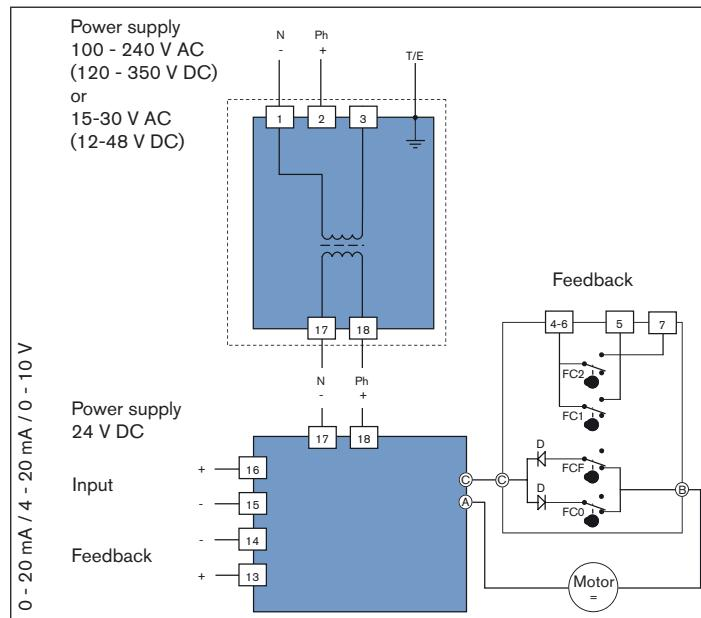

Fig. 21: Circuit diagram
- Connect cable according to the circuit diagram (see "Fig. 21") to the terminal strip Pos. 14 of the power supply card.